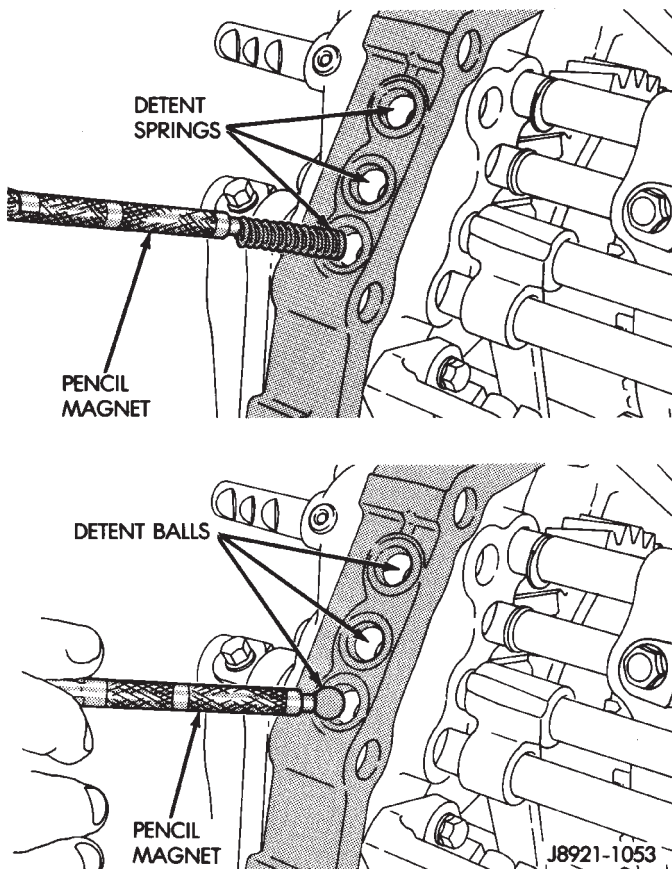

Fig. 109 Detent Ball And Spring Installation
(13) Install lock balls and springs in intermediate plate (Fig. 109). Then install and tighten lock ball plugs to 19 N·m (14 ft. lbs.) torque.